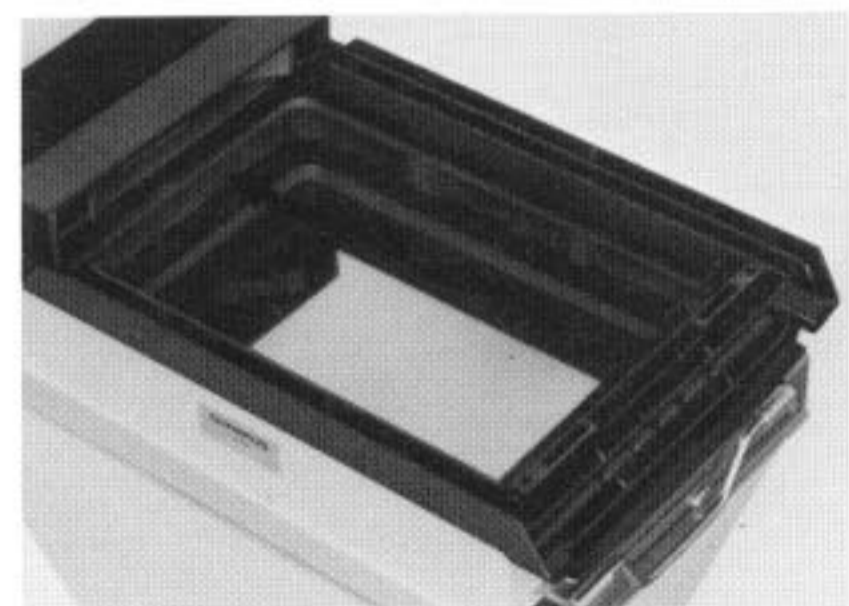

Fig. 30
- 4) Next, holding the film pack only by the edges, so that the safety cover, bearing the legend "SAFETY COVER . . . THIS SIDE FACES LENS", faces into the camera, insert the pack against the spring beneath the back cover. (Fig. 30)